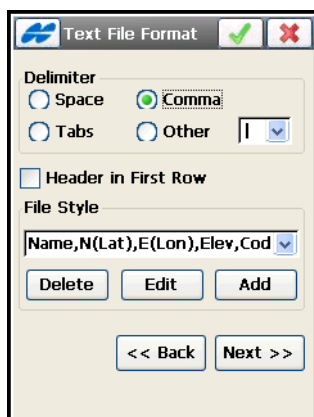

Figure 5-31. Text File Format
5. On the *Text File Format* screen, (Figure 5-31), specify data format parameters in the file:
1. Tap **Add (Edit) Format** on the *Text File Format* screen (Figure 5-31 on page 5-22).
4. Tap **Save**. The combination will display in the *Select File Format* drop-down list on the *Text File Format* screen (Figure 5-31 on page 5-22).